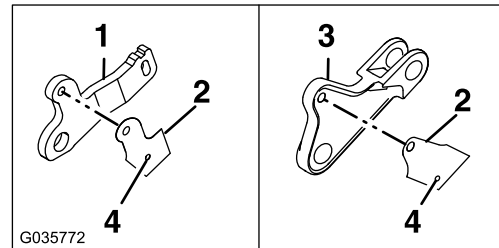

Figure 4
6. Cut out the appropriate rear deck lift arm template, align the template as shown in Figure 4, center punch the hole, and drill the hole as follows: